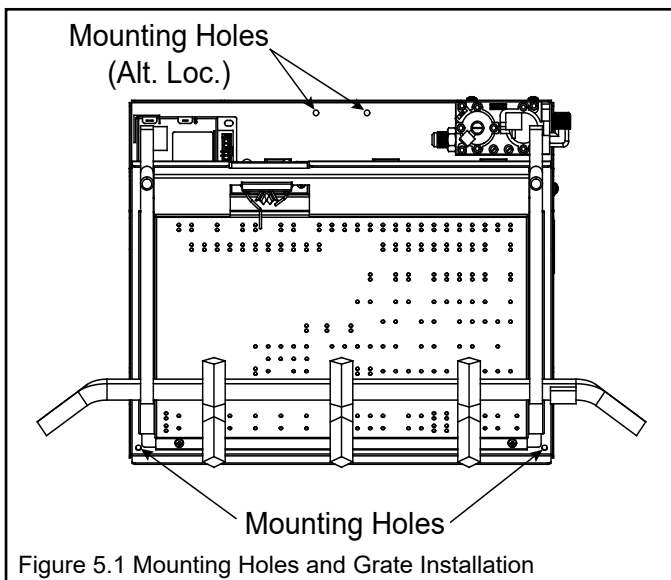

Figure 5.1 Mounting Holes and Grate Installation
4. Once the appliance is positioned correctly, side to side and front to back, mark the mounting hole positions on the fireplace floor. See Figure 5.1 for mounting hole locations.
5. Drill (2) 5/32" diameter holes approximately 1-1/2" deep.
1. To properly position the grate, align the three tabs located at the rear of the grate, with the three slots in the rear of the burner base assembly. The front grate bar should rest on the two support tabs located on the side of the burner base assembly. This will position the grate front to back and side to side. See Figure 5.1.